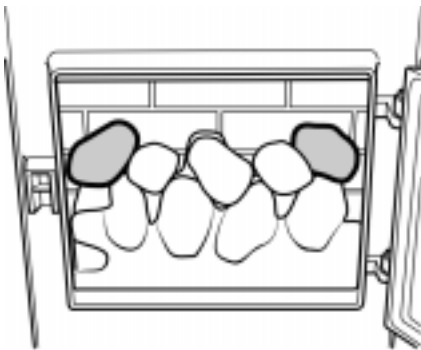

Figure 10
8. Locate the remaining two ceramic coals identified with a number '1' as in figure 10.